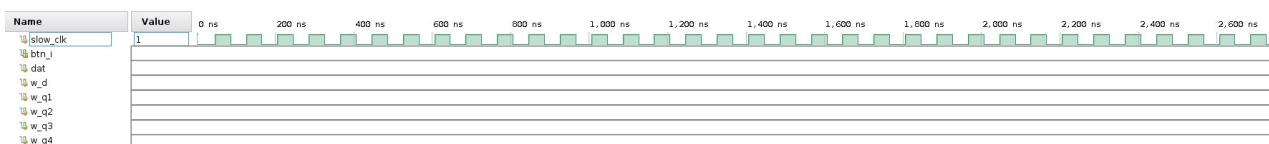

Figure 3: Simulation waveform (to be filled)
2. Plot the signals listed in Figure 3 from 200 ns to 2600 ns. If they are not present in the Waveform window, please select the uut design to show the right signals in the `Object` window. Select them, right click and then choose 'Add to Wave Window'.